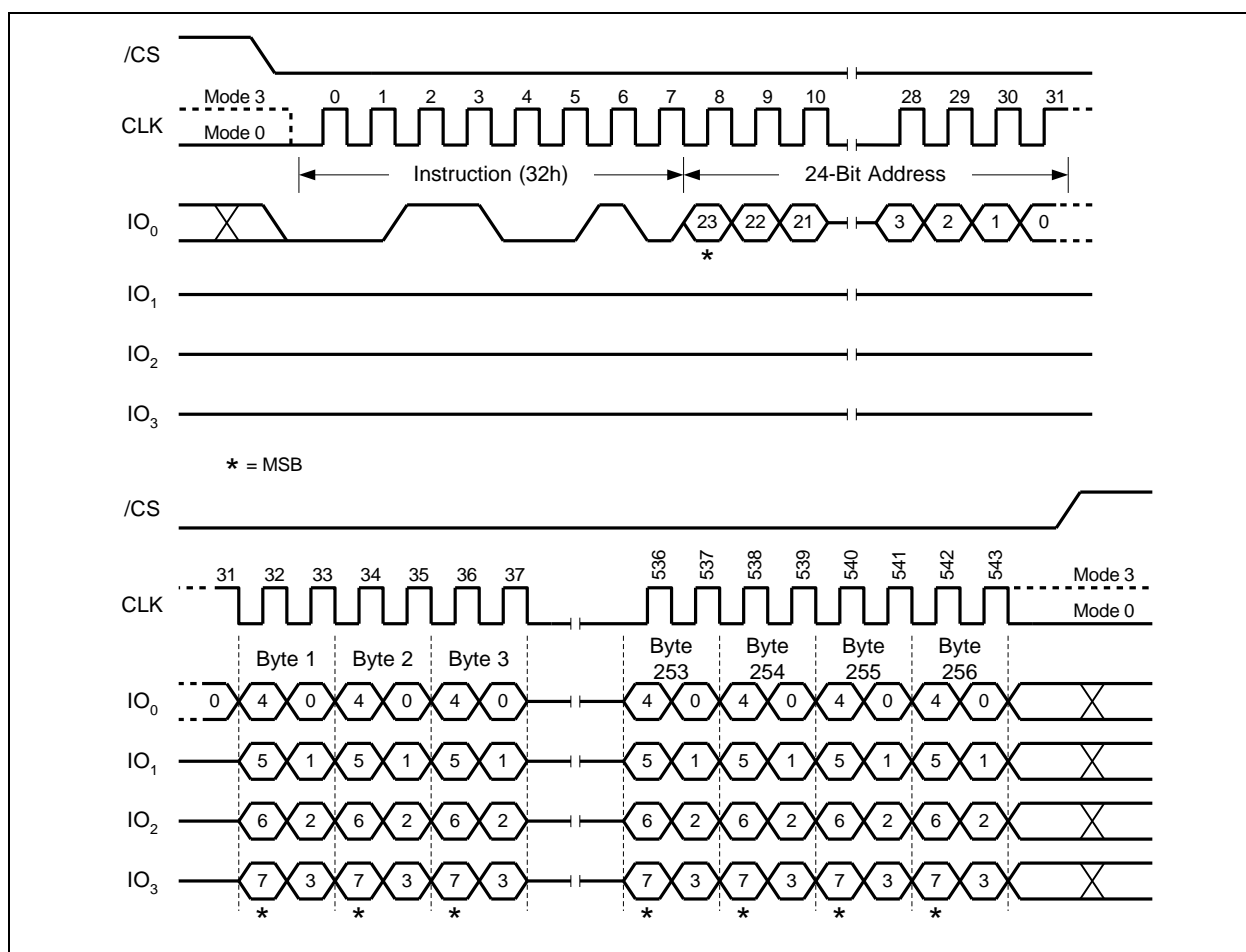

Figure 30. Quad Input Page Program Instruction
- 8.2.14 To use Quad Page Program the Quad Enable (QE) bit in Status Register-2 must be set to 1. A Write Enable instruction must be executed before the device will accept the Quad Page Program instruction (Status Register-1, WEL=1). The instruction is initiated by driving the /CS pin low then shifting the instruction code "32h" followed by a 24-bit address (A23-A0) and at least one data byte, into the IO pins. The /CS pin must be held low for the entire length of the instruction while data is being sent to the device. All other functions of Quad Page Program are identical to standard Page Program. The Quad Page Program instruction sequence is shown in Figure 30.